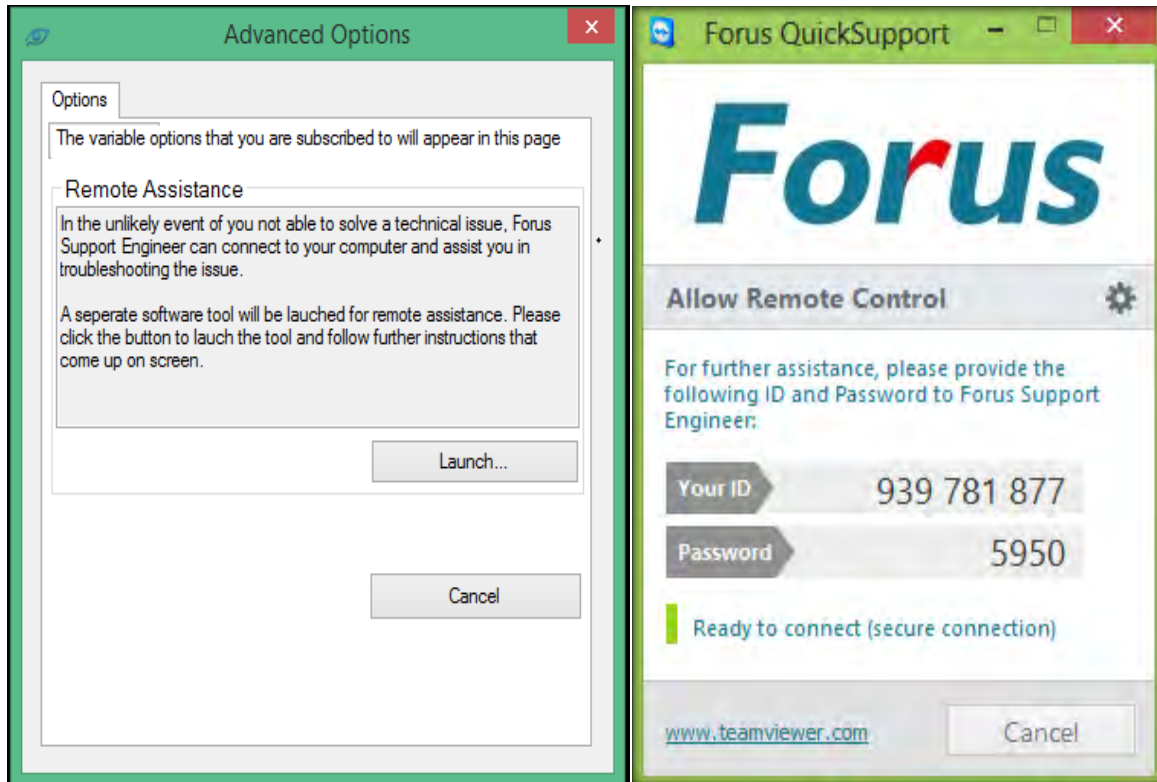

Figure 39: Remote Assistance
On clicking <Advanced> on the top right hand side of the window in anterior mode (Figure 31) or posterior mode (Figure 28), a popup menu appears as shown in Figure 39
In the unlikely event of a problem where assistance from the Forus service team is needed, you can invoke Remote Assistance quick support by selecting Options tab, then clicking on the <Remote Assistance> button. As in the Figure 39.
3. On accepting the disclaimer, team viewer quick support window will be displayed. The ID and password will appear automatically; this needs to be shared with the service engineer to initiate remote assistance. As in Figure 39.